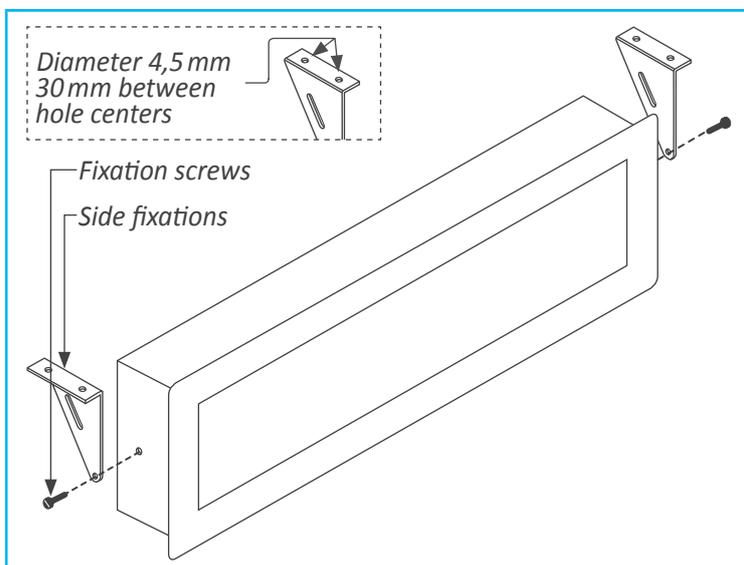

Figure 10 - Hanging mount
- Hanging mount. Mount the side fixations as shown (see Figure 10). Each fixation has 2 holes with 4,5 mm diameter and a separation between hole centers of 30 mm. Instrument can be hanged using cable, threaded rod, ....